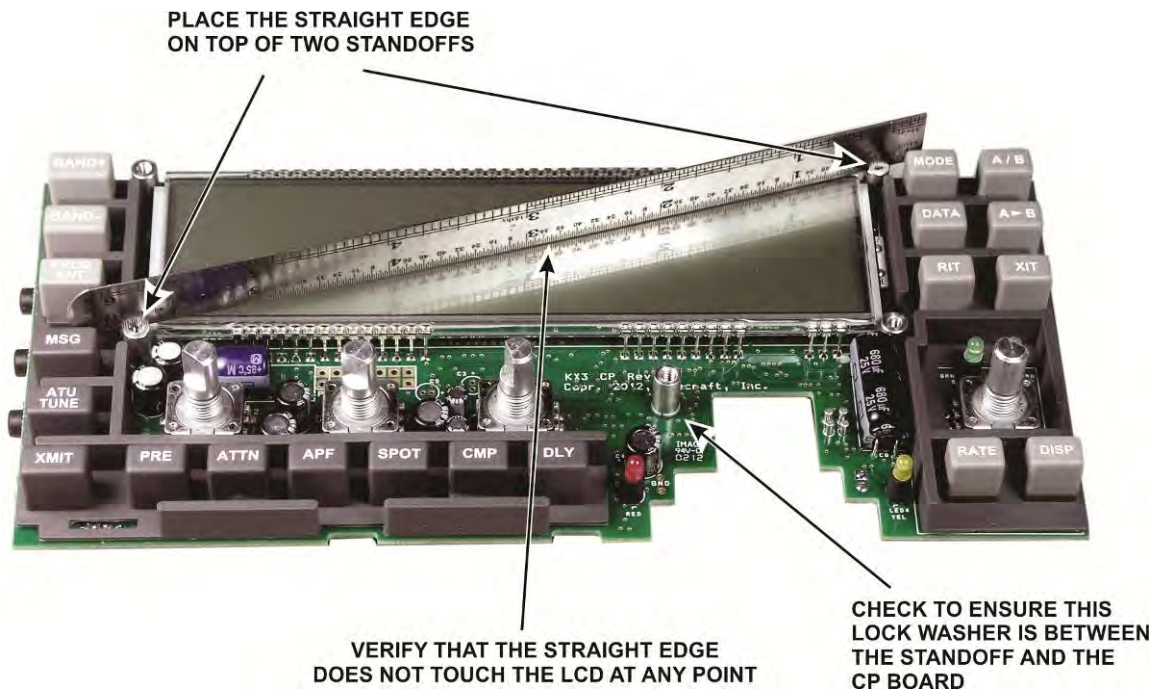

Figure 13. Checking Standoffs.
6. Straight-edge rule for checking clearances (see Figure 13, pg 13) .
On the front side of the board, place a straight edge across the top of two standoffs as shown in Figure 13 and confirm that the straight edge does not touch the LCD at any point. If it does, most likely you left out one of the lock washer spacers shown in Figure 9. Move the straight edge to the remaining two standoffs and repeat the test.
- Verify that you placed a lock washer between the 4-40 standoff and the pc board as shown in Figure 13.